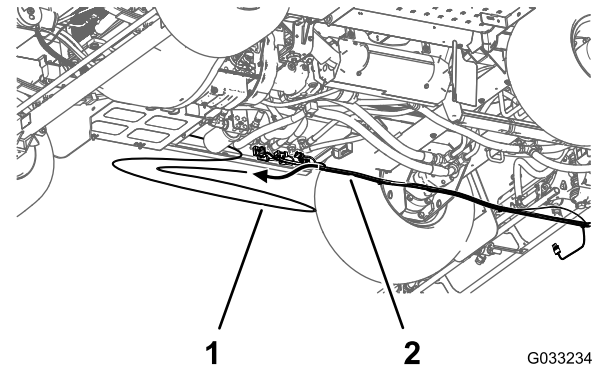

Figure 27
7. Remove the pressure-sense tube for the dash gauge from the rear wire harness from the machine (Figure 27).